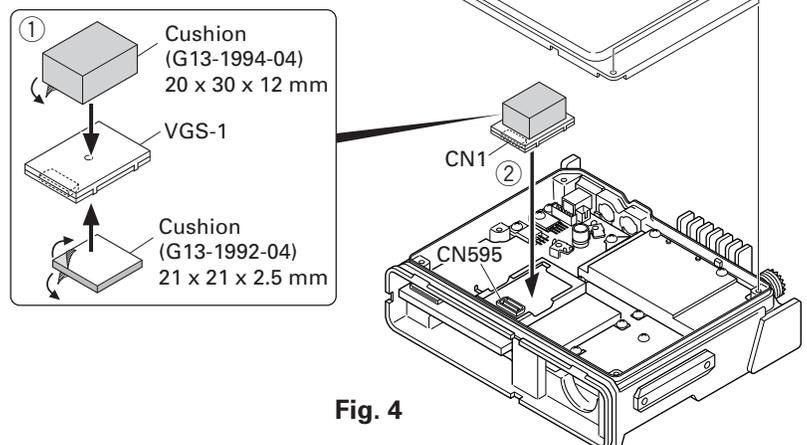

Fig. 4
2. Attach two cushions to VGS-1 as shown in Figure 4. (①)